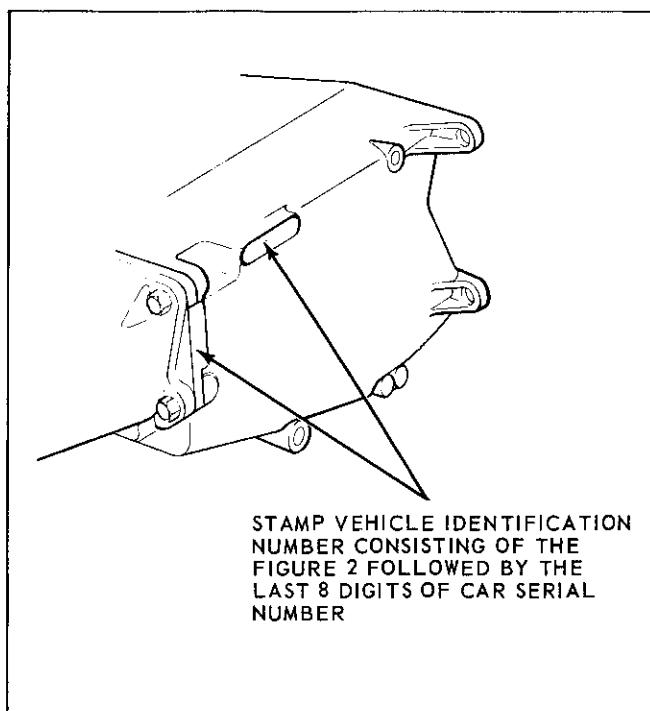

Fig. 7B-27 Vehicle Identification Number Location
- NOTE: On 6-cyl. Firebirds, install driveline damper (Fig. 7B-26).*